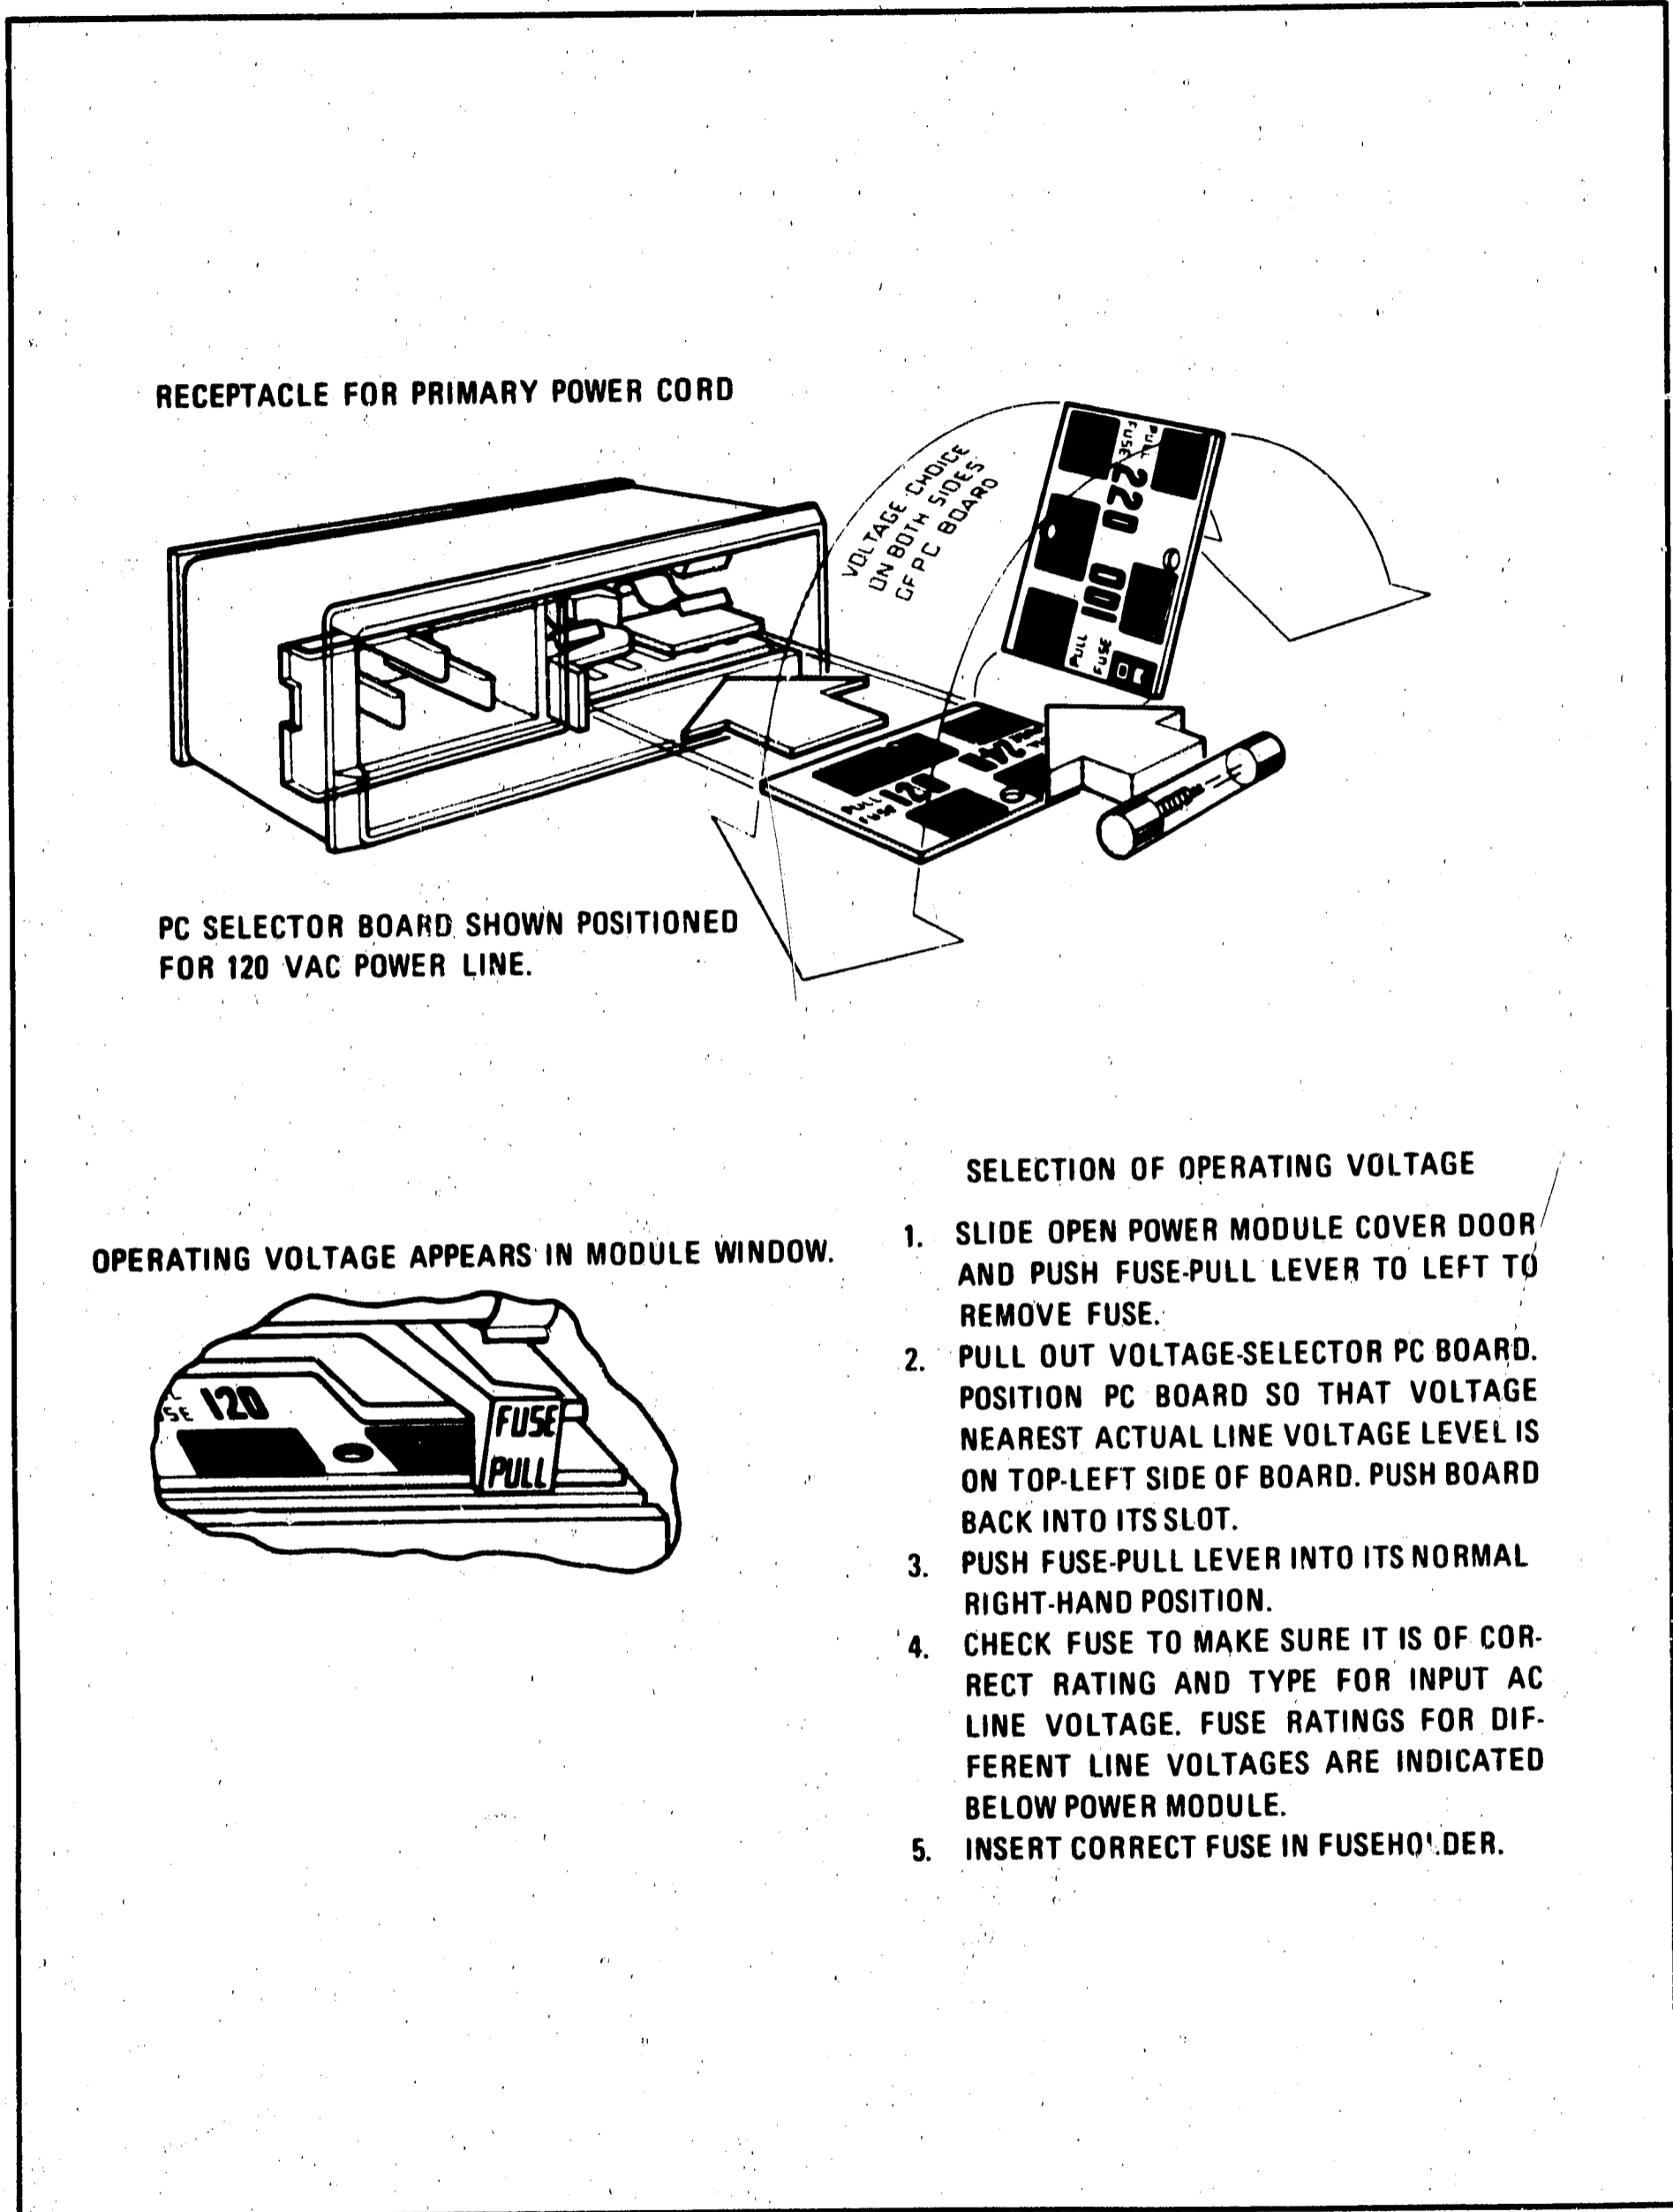

Figure 2-1. Line Voltage Selection with Power Module PC Board
- b. Refer to Figure 2-1. At the instrument's rear panel power line module, select the line voltage (100V, 120V, 220V, 240V) closest to the voltage you measured in step a. Line voltage must be within $\pm 5\%$ or $\pm 10\%$ of the voltage setting. If it is not, you must use an autotransformer between the ac source and the 8503B.